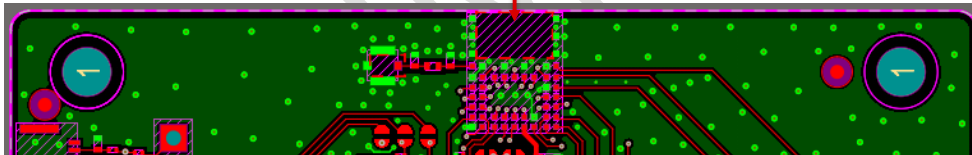

Figure 6: Chip Antenna keep-out area (shown in red) of the BL54L15μ development board for the 453-00223 module.
- The BL54L15μ development board (453-00223-K1) has the 453-00223 module on the edge of the board (not in the corner). The antenna keep-out area is defined by the BL54L15μ development board which was used for module development and antenna performance evaluation is shown in **Figure 6**, where the antenna keep-out area is 3mm wide, 5mm long; with PCB dielectric (no copper) height ~1.75mm sitting under the 453-00223 chip antenna module.
- Host PCB land pattern and antenna keep-out for the BL54L15μ applies when the 453-00223 is placed in the edge of the host PCB preferably in the edge center. **Figure 6** shows an example.